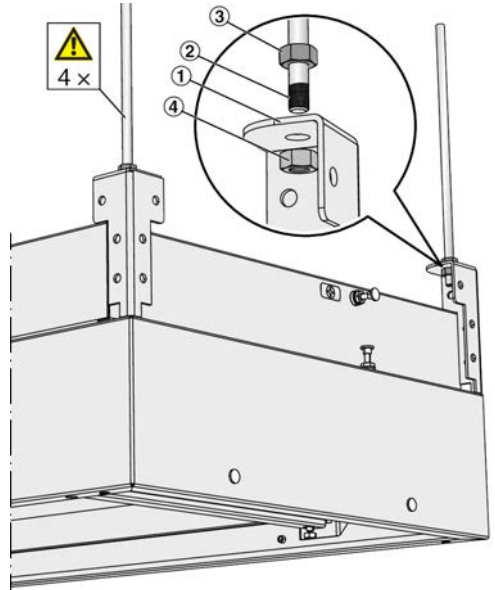

Fig. 2: Fixing
- ④ Nut
- ▶ Fix any suspension elements, e.g. threaded rods (Fig. 2/2), to the ceiling.
- ▶ Start by suspending the TFM casing on three suspension lugs (Fig. 2/1); ensure that the casing is horizontal, fix the nuts accordingly (Fig. 2/4), then use the locknuts (Fig. 2/3) to secure the suspended casing.